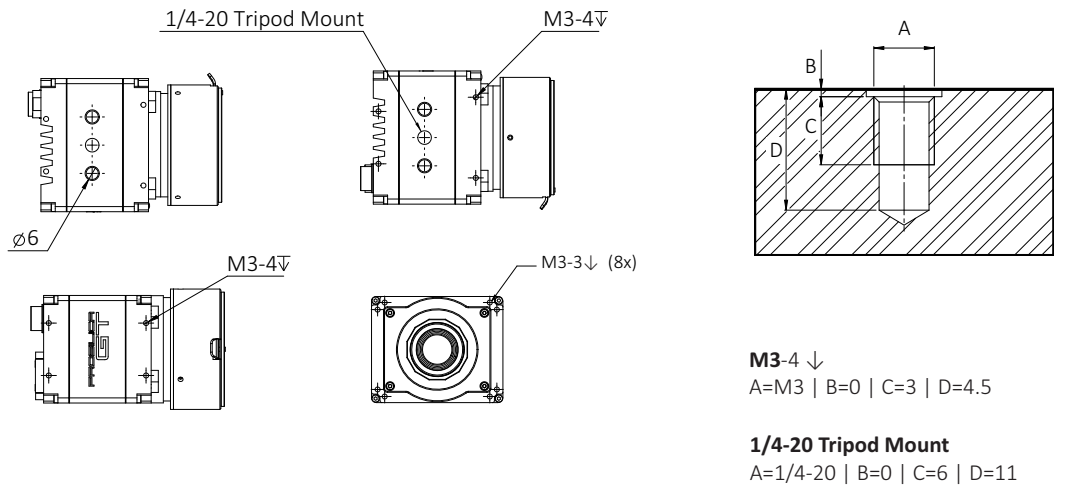

Figure 3: M3 and 1/4-20 mounting threads on Large Format cameras
1. As shown in Figure 3, mount the camera to the base:
- a. **For M3 mounting threads:** Using suitable M3 screws at 0.69 Nm maximum torque for a thread engagement (C) of 3 mm between screws and mounting threads.
- b. **For 1/4-20 Tripod Mount:** Using suitable 1/4-20 screws at 5 Nm maximum torque for a thread engagement (C) of 6 mm between screws and mounting threads.